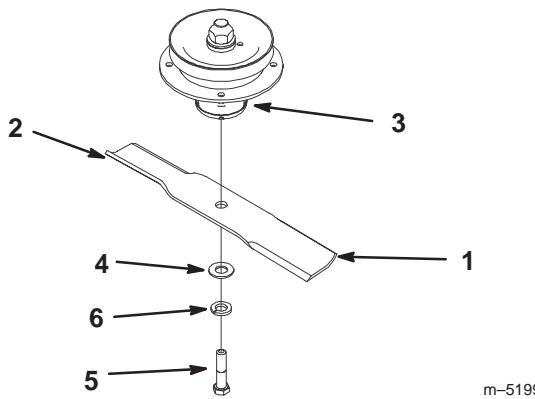
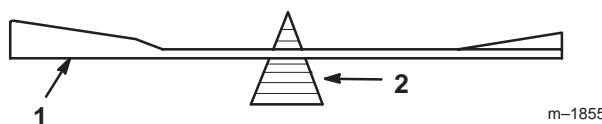

Figure 59
Figure 61
1. Hold the blade end using a rag or thickly-padded glove. Remove the blade bolt, washer, lock washer and blade from the spindle shaft (Fig. 59).
2. Check the balance of the blade by putting it on a blade balancer (Fig. 61). If the blade stays in a horizontal position, the blade is balanced and can be used. If the blade is not balanced, file some metal off the end of the sail area only (Fig. 59). Repeat this procedure until the blade is balanced.
1. Install the blade onto the spindle shaft (Fig. 59).
Important The sail part of the blade must be pointing upward, toward the inside of the mower to ensure proper cutting (Fig. 59).
2. Install the lock washer and blade bolt (Fig. 59). Torque the blade bolt to 85–110 ft-lb (115–140 N•m).